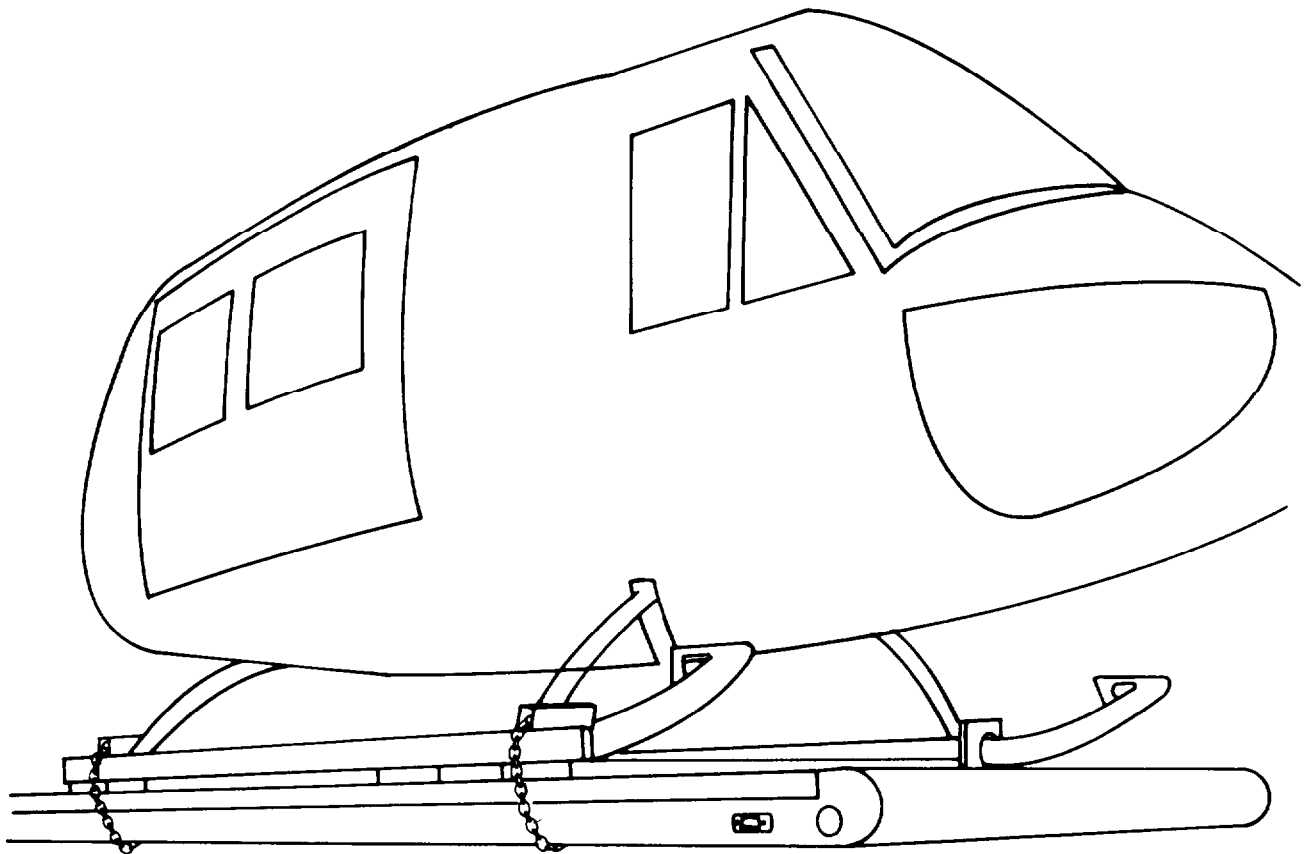

Figure 4-1. Shipment of UH-1 Helicopters by Truck.
**4-6. LOADING. (figure 4-1).**
a. Secure landing gear skid tubes to carrier bed with chains mounted over shipping supports (figure 4-1).